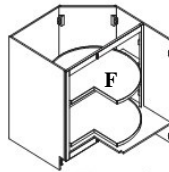

Figure 7
7. Insert shelf with turntable into position on short shelf steps, align the cam lock at bottom and tighten as shown in (Figure 7).